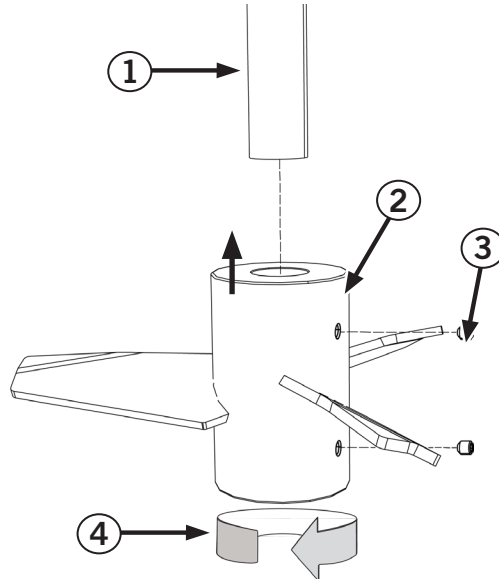

Figure 10. High-Efficiency Impeller
It is important to install the High-Efficiency Impeller (HEI) blades in a specific orientation, see rotation (4) in Figure 10. High-Efficiency Impeller below.